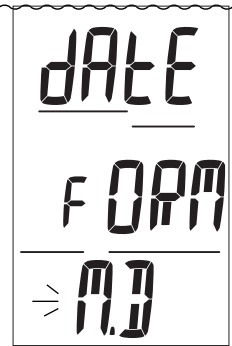

Fig. 37 - Set DATE FORMAT
**Set Date Format**, information includes (Fig. 37):